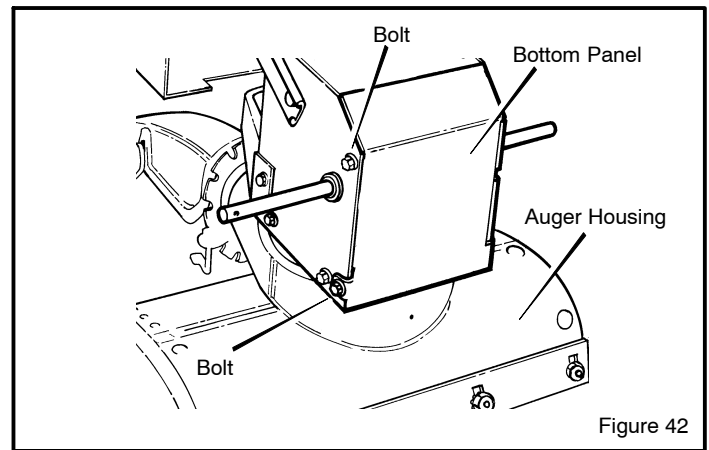

Figure 42
1. Remove the gas from the gas tank. Stand the snow thrower up on the front end of the **auger housing** (see Figure 42).
3. Loosen the **bolts** on each side of the **bottom panel** (see Figure 42).
5. Install the **bottom panel** (see Figure 42).
1. Remove the gas from the gas tank. Stand the snow thrower up on the front end of the **auger housing (4)**. (see Figure 42).